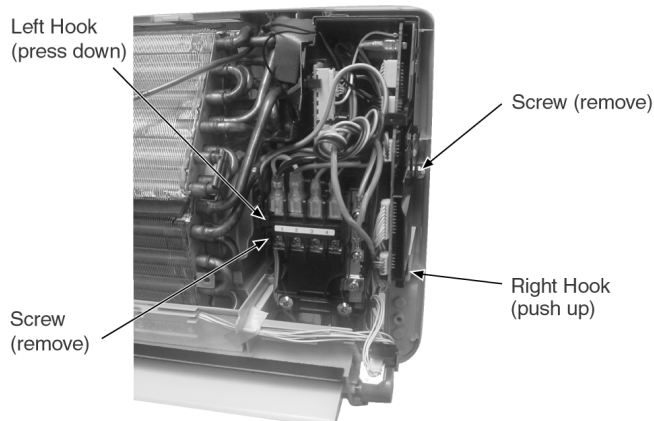

Fig. 7
3. Removing the right and left screws. (Fig. 7)
4. By pressing down the hook at the left and pushing up the hook at the right, you will be able to remove the Control Board. (Fig. 7)